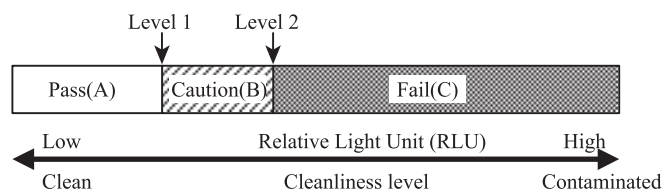

Fig. 1: Setting Benchmark Level for Cleanliness Level Control
Benchmark levels 1, 2 are set that are used to determine whether cleanliness levels are at acceptable levels or not (see Fig. 1). Cleanliness levels are designated as Pass (A) if the measured amount of luminescence falls below level 1 and as Fail (C) if the amount is higher than level 2. With Fail (C), cleaning will need to be redone and cleaning procedures may need to be revised. Cleanliness levels where the measured amount of luminescence is above level 1 but below level 2 are designated as Caution (B), and it is recommended that cleaning be redone and cleaning procedures revised in such cases.